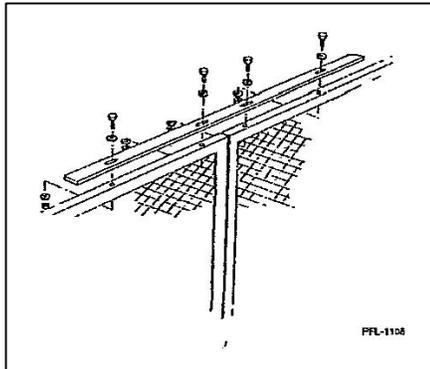

Figure 3
- 4. Stiffeners are provided whenever two panels in excess of 6" meet. **See Figure 3.**